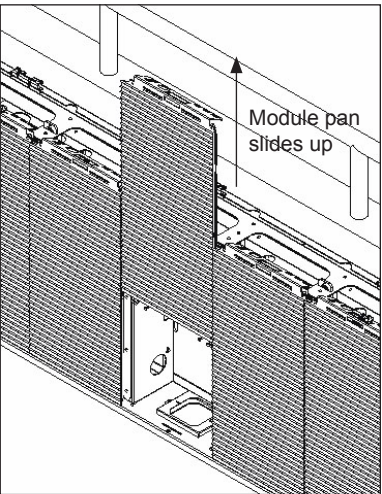

Figure 44: Removing Module Pan
- 5. Ensure all cables are unplugged and then raise the module pan carefully until free of the track and over the rail into a safe position. The module pan should now be ready for servicing, and the lanyard may be unhooked. Refer to Figure 44.